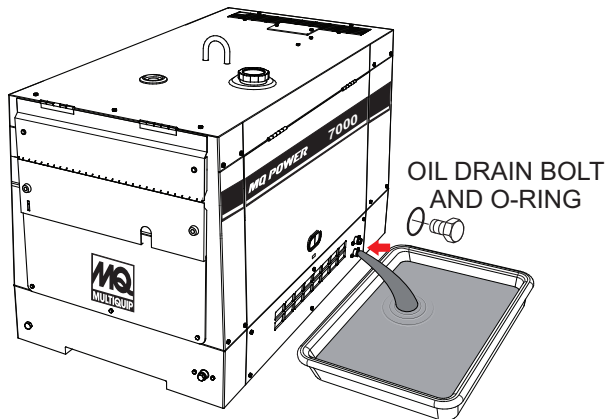

Figure 39. Engine Oil Drain Plug
1. Remove engine oil drain plug located at the bottom of the generator enclosure (Figure 39) and drain oil from crankcase. For best results drain oil while engine is warm. Reinstall oil drain plug, and add engine oil as specified in Table 6. Crankcase oil capacity is 2.64 qts. (2.5 liters).